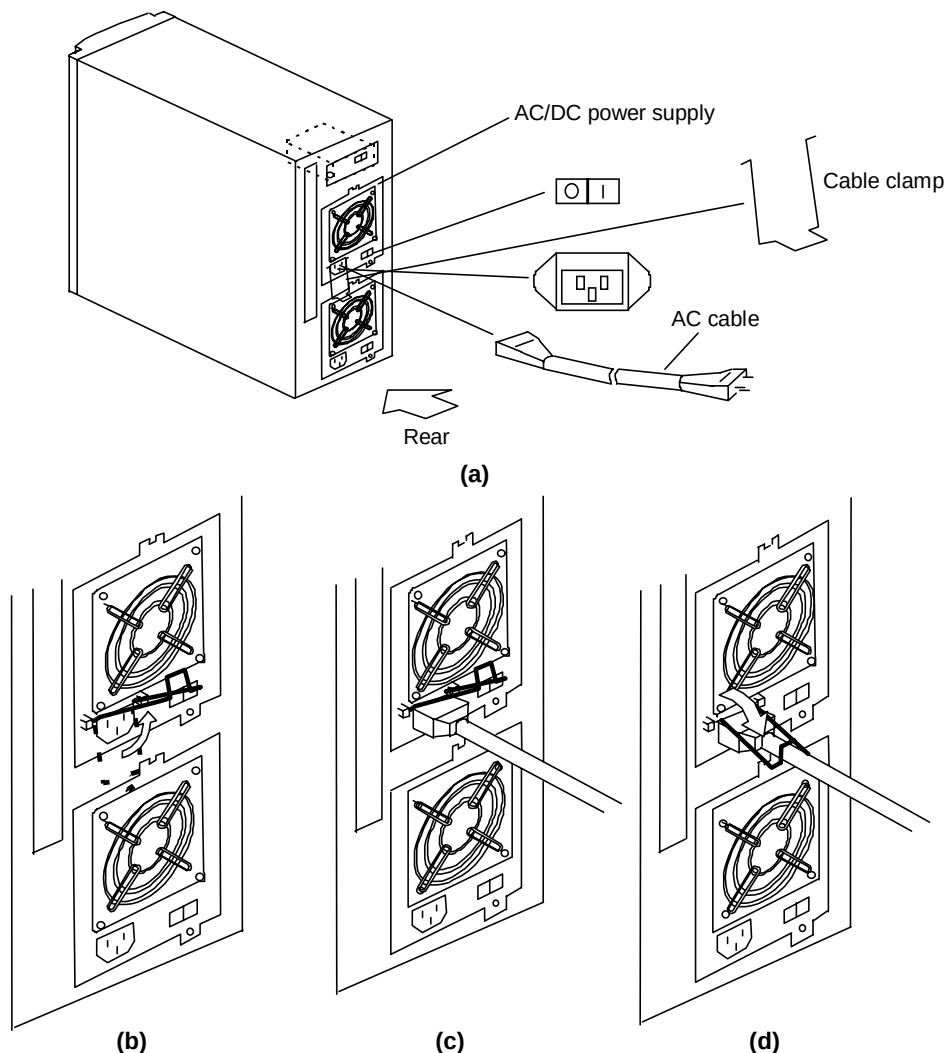
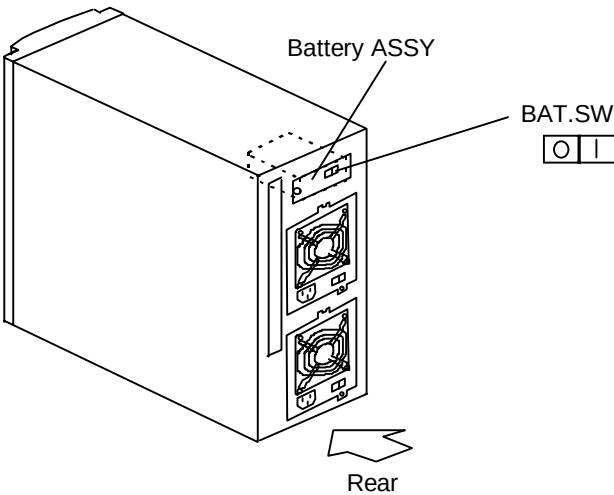

Figure 3.3.1 AC Cable Connection
Figure 3.3.2 Inside Construction of the Subsystem
- (1) Make sure that the circuit breaker (a switch on the rear panel) is "O" (OFF), then connect the AC cable. (See Figure 3.3.1.) When installing the AC power cable, raise the cable clamp as shown in (b), connect the cable as shown in (c), and secure the cable with the cable clamp as shown (d). When the power supply is duplicated, do the same operation for both upper and lower power supplies. (When the FAN BOX ASSY is installed, do the operation above for the power supply in the lower position only.)
- (2) Supply AC power.
- (3) Make sure that the battery power switch is turned to "ON". Then turn on the circuit breaker. (See Figure 3.3.2.)